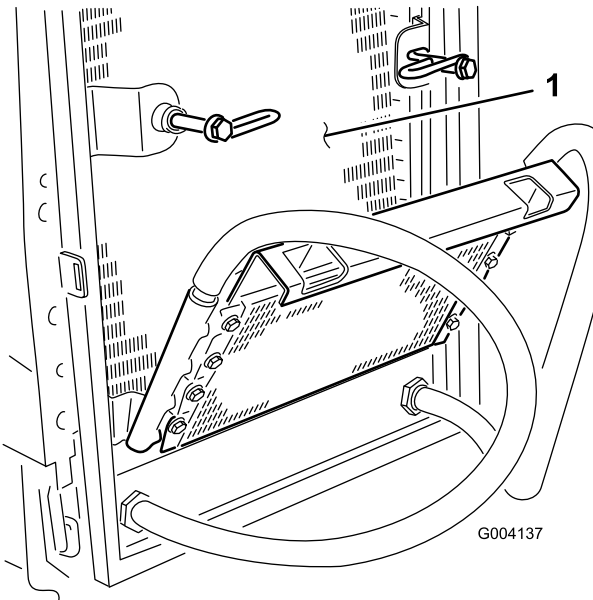

Figure 63
6. Thoroughly clean both sides of the oil cooler and the radiator (Figure 63) with compressed air.